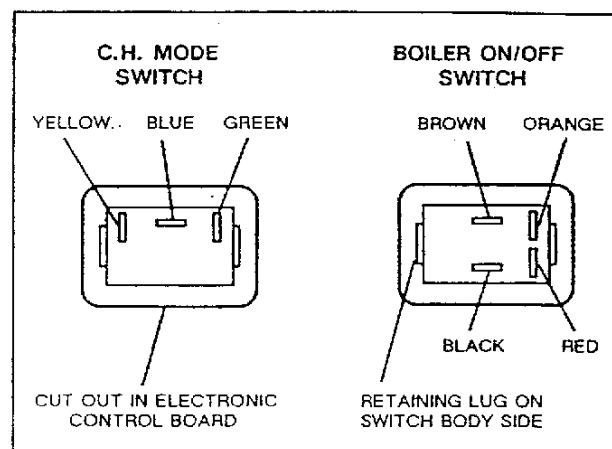

Fig. 27 VIEW FROM REAR OF CONTROL PANEL
12. C.H. MODE AND ON/OFF SWITCHES (see Fig. 27)
- Re-fit wires in correct positions (see Fig. 27)